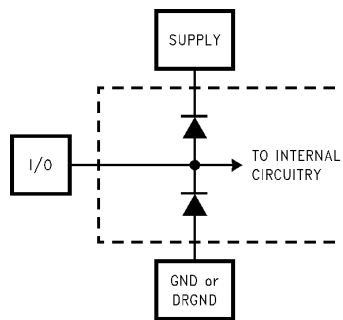

Figure 2.
- (1) The inputs are protected as shown below. Input voltage magnitudes above V_A or below GND will not damage this device, provided current is limited see Note 4 in the Absolute Maximum Ratings table. However, errors in the A/D conversion can occur if the input goes above V_A or below GND by more than 100 mV. As an example, if V_A is +3.3V, the full-scale input voltage must be $\leq +3.4V$ to ensure accurate conversions (see Figure 2).
- (2) To guarantee accuracy, it is required that $|V_A - V_D| \leq 100$ mV and separate bypass capacitors are used at each power supply pin.
- (3) With the test condition for $V_{REF} = +1.0V$ (2V_{P-P} differential input), the 12-bit LSB is 488 μV .
- (4) Typical figures are at $T_J = 25^\circ C$, and represent most likely parametric norms. Test limits are guaranteed to AOQL (Average Outgoing Quality Level).
- (5) I_{DR} is the current consumed by the switching of the output drivers and is primarily determined by load capacitance on the output pins, the supply voltage, V_{DR} , and the rate at which the outputs are switching (which is signal dependent). $I_{DR} = V_{DR}(C_0 \times f_0 + C_1 \times f_1 + \dots + C_{11} \times f_{11})$ where V_{DR} is the output driver power supply voltage, C_n is total capacitance on the output pin, and f_n is the average frequency at which that pin is toggling.
- (6) Excludes I_{DR} . See⁽⁵⁾
- (2) To guarantee accuracy, it is required that $|V_A - V_D| \leq 100 mV$ and separate bypass capacitors are used at each power supply pin.
- (4) Timing specifications are tested at TTL logic levels, $V_{IL} = 0.4V$ for a falling edge and $V_{IH} = 2.4V$ for a rising edge.
- (5) Typical figures are at $T_J = 25^\circ C$, and represent most likely parametric norms. Test limits are guaranteed to AOQL (Average Outgoing Quality Level).